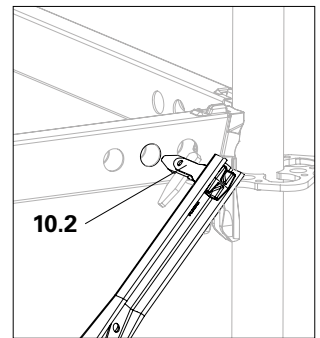
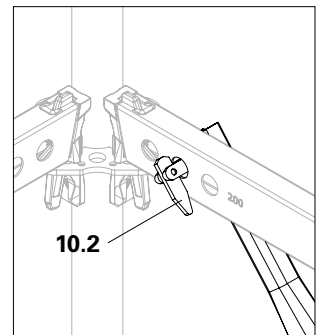

Fig. B1.03b
Fig. B1.03c
4. Insert the gravity pin (**10.2**) into the hole of the upper horizontal ledger, turn pin to secure. (Fig. B1.03b + Fig. B1.03c)
All gravity pins (**10.2**) used in the assembly process must be transverse after the Ledger Braces UBL are installed and resting on both sides of the hole. (Fig. B1.03c)